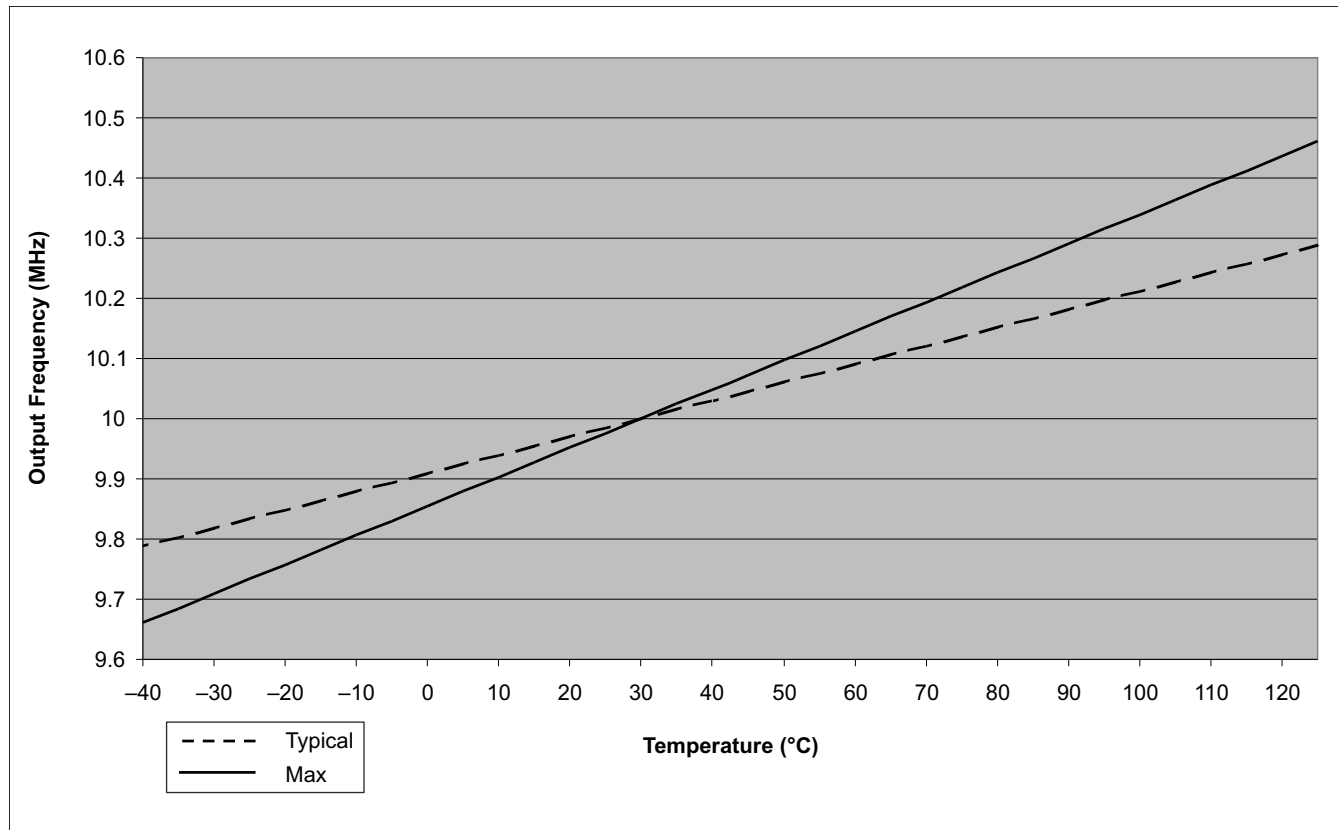

Figure 7-8. Zero-Pin Oscillator Frequency Movement With Temperature
- (1) Oscillator frequency will vary over temperature, see Figure 7-8. To compensate for oscillator temperature drift, see the Oscillator Compensation Guide and C2000Ware. .
- (2) Frequency range ensured only when VREG is enabled, $\overline{\text{VREGENZ}} = V_{\text{SS}}$.
- (3) Output frequency of the internal oscillators follows the direction of both the temperature gradient and voltage (V_{DD}) gradient. For example: